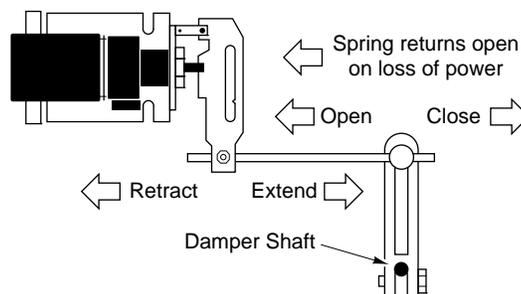
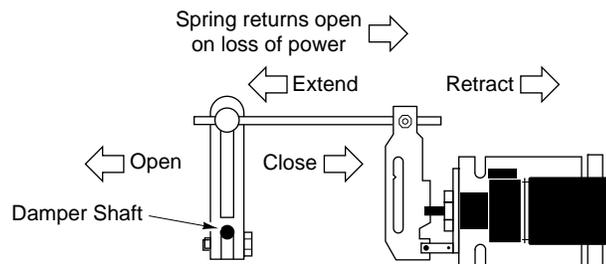

Figure-12 Dampers Open When Actuator Retracts (Spring>Returns Open on Power Loss).
Figure-13 Dampers Open When Actuator Extends (Spring>Returns Closed on Power Loss).
- a. Determine, from the system requirements, if the damper should spring-return to the open position (Figure-12) or closed position (Figure-13) whenever power is lost to the actuator. For example, an outside air damper actuator is typically linked so as to retract (spring-return) to the damper's fully closed position (safe position).